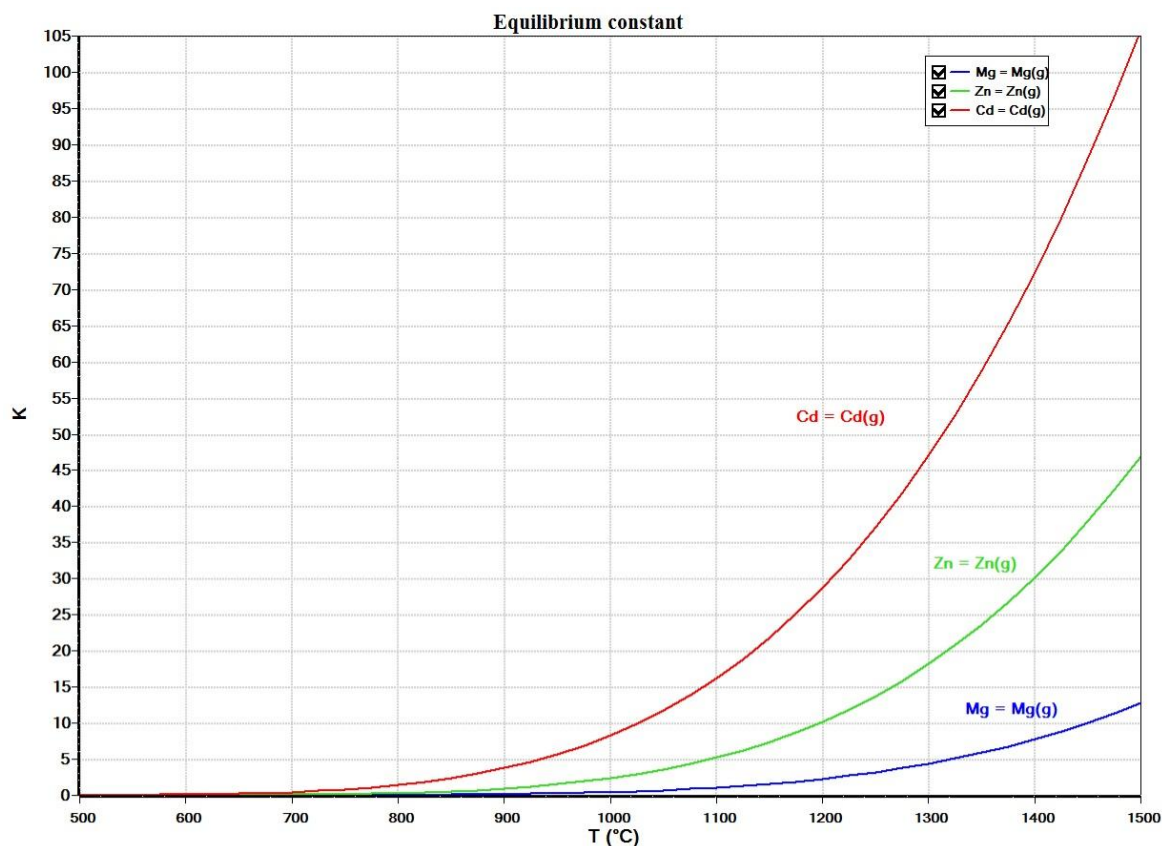

Fig. 6. Results for several reactions can be plotted into a single chart with **Plot all data** to help the comparison.
Vapor pressures p can be calculated by writing the reaction equation for the vaporization reaction concerned. For example, for pure magnesium the equilibrium is $\text{Mg} = \text{Mg}(\text{g})$. The activity a_{Mg} of pure magnesium is 1 and thus the vapor pressure in bar is equal to the equilibrium constant according to Eq. (11) in Chapter 8 Introduction and Eq. (1). See also **Fig. 5** and **Fig. 6**.